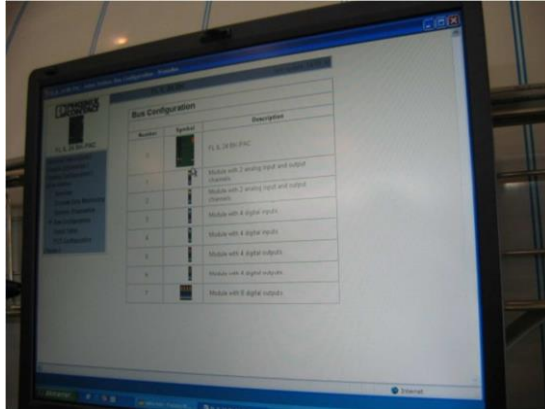

Figure 10. Modules configuration.
- First, go to « Inline Station->Bus Configuration » (see Figure 10). You have to check that the LEDs of the Phoenix modules are all still green and that you have the same view on screen than what you have in the electrical box. If the view is not the same, then you need to check the connection of the I/Os modules and of the electrovalves. Furthermore, the electrovalves are not differentiated from the digital output modules on the screen. So a module of X electrovalves appears in the web interface with the label « Module with X digital outputs », where X is the number of electrovalves.